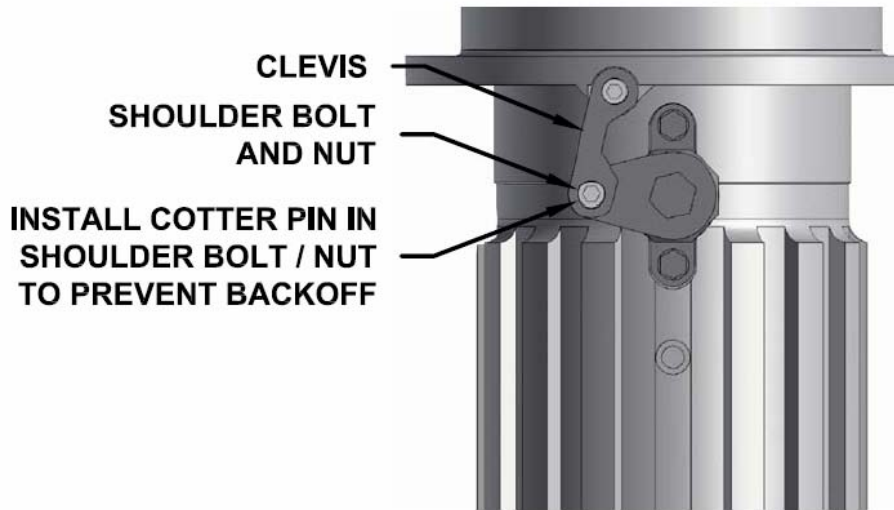

**Figure 6**
4. Install clevis onto actuator sleeve with shoulder bolt, nut, and cotter pin. Note proper orientation of clevis (see markings on clevis). (See **Figure 6**.) Be sure that the end of the clevis marked "SLEEVE" is connected to the actuator sleeve.